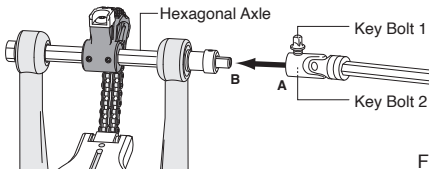

Fig.13
Use same method with (left) pedal (Fig.13). To ensure proper connection of the drive shaft rotate the Hexagonal Axle to have the flat surface of the short extension (B) facing upwards to fit into Joint (Fig.13).